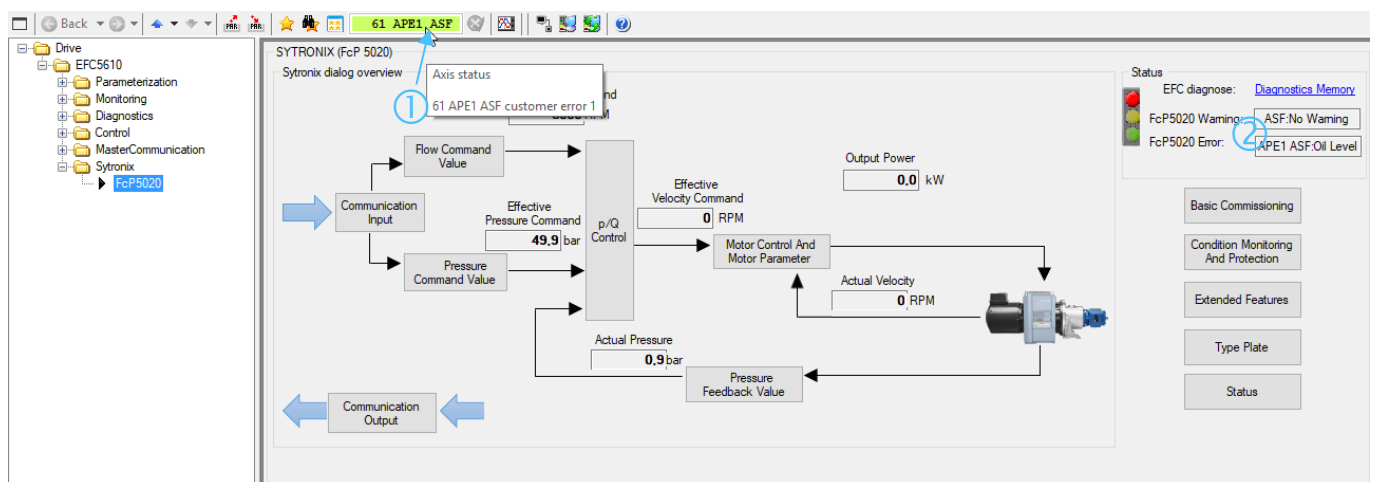

Abb. 69: Diagnosis
2. Check the diagnostic messages (see Abb. 69: Diagnosis):
- Axis status (converter status) ①
- FcP 5020 (ASF) status ②